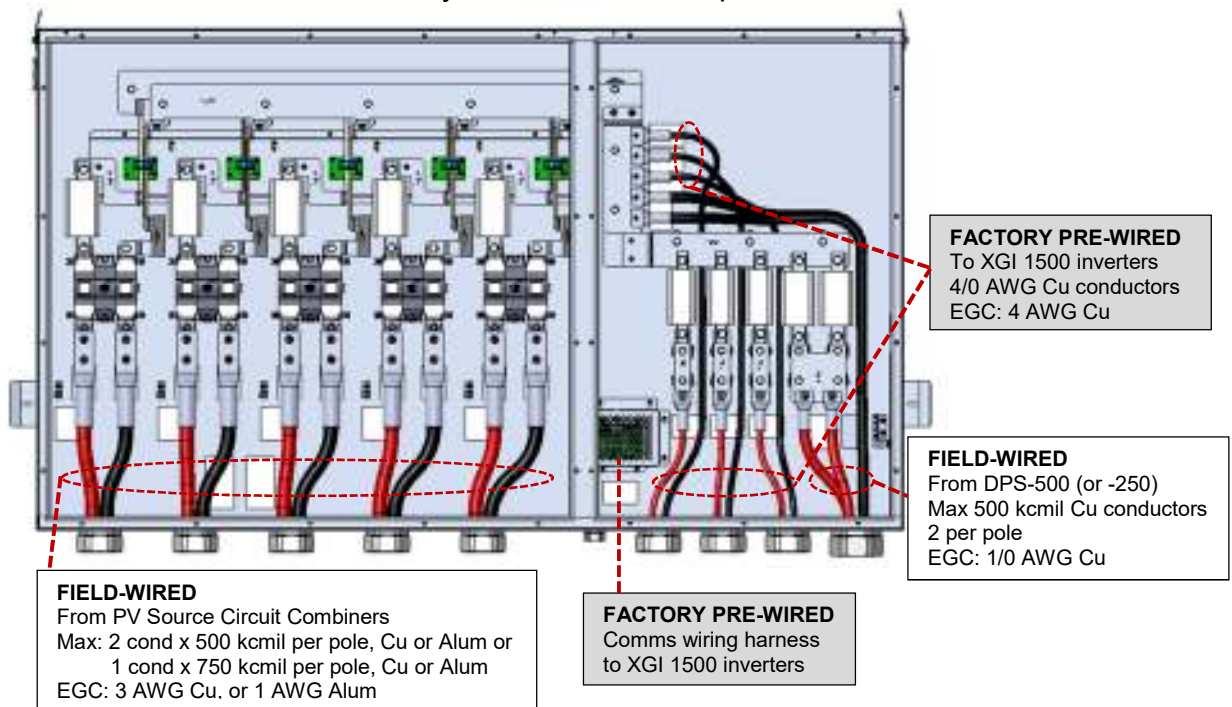

Figure 5.1 – Specs for Field Wiring to the DCR-1500 Re-Combiner
Completing the installation of the Re-Combiner (see Figure 5.1) requires: (1) field wiring from the (up-to-five) PV Output Circuits, originating in CR1500-400 PV Source Circuit Combiners in the PV array field, to the terminals in the Re-Combiner and (2) field wiring from the terminals in the DCR to the terminals in the Dynapower DC/DC Converter. In addition, the Re-Combiner has two factory pre-wired connections: DC power from the Re-Combiner to the DC input of the XGI 1500 inverters, and the communications wiring harness that also connects the Re-Combiner to the XGI 1500 inverters. Figure 5.1 shows the maximum wire compatibility for the field-wired connections, and the as-delivered factory-wired conductor specifications.